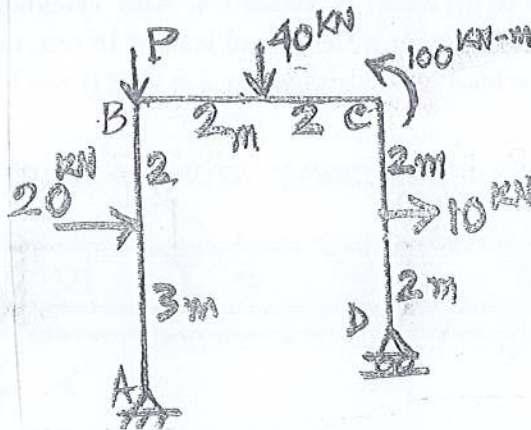

FIG.1
1. A cable is suspended from the points A and B which are 100m apart horizontally and the ends are at 8m and 15m above the lowest point of the cable. The cable is carrying a UDL of w kN/m over the horizontal span. Calculate the reaction at the ends and the maximum & minimum tension in the cable. Also calculate the sag at the lowest point, where $w = 20$ kN/m, if roll is even or $w = 30$ kN/m, if the roll is Odd. (14)
2. Analyze the Frame in Fig. 1 and draw the bending moment diagram. Show the free body diagrams. (14)